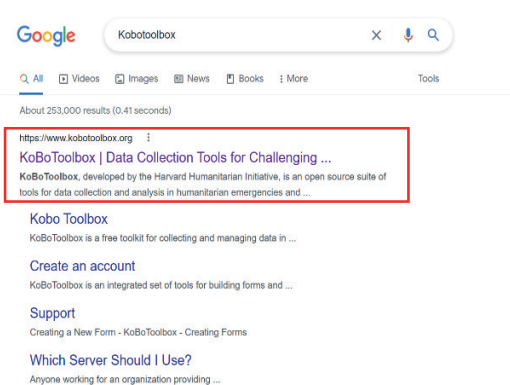
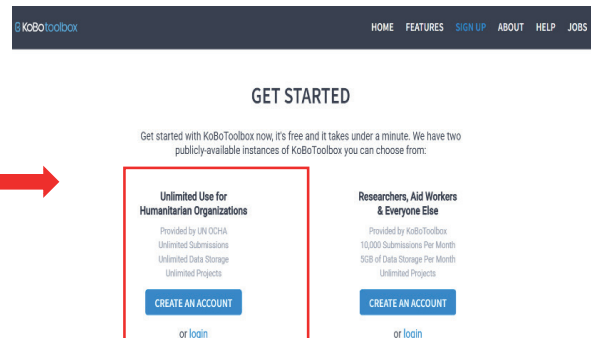

Figure 4: Search for KoBoToolbox on Google/available search engine
Figure 5: KoBoToolbox Home Page
1. Insert the URL <http://www.kobotoolbox.org> into the Browser, the Kobo Toolbox homepage will appear OR search “Kobo Toolbox” on the Google Search bar (or current search engine). (Figure 4) The Kobo Toolbox Homepage (Figure 5) offers two options to getting started (i.e. Creating an account or Logging In). These are: